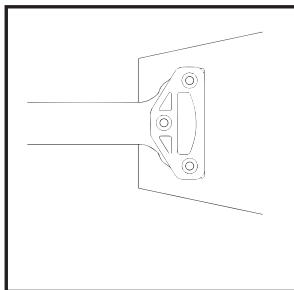

Figure 1.
2. Center the tail strap on the tail end of the skin. Center the metal plate on the tail strap, as shown in Figure 1.